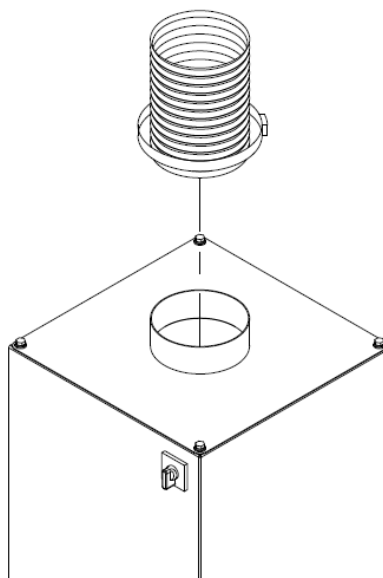

FIG. 2
6. If equipped, install the hose assembly onto the collar on the base of the unit (Fig. 2).